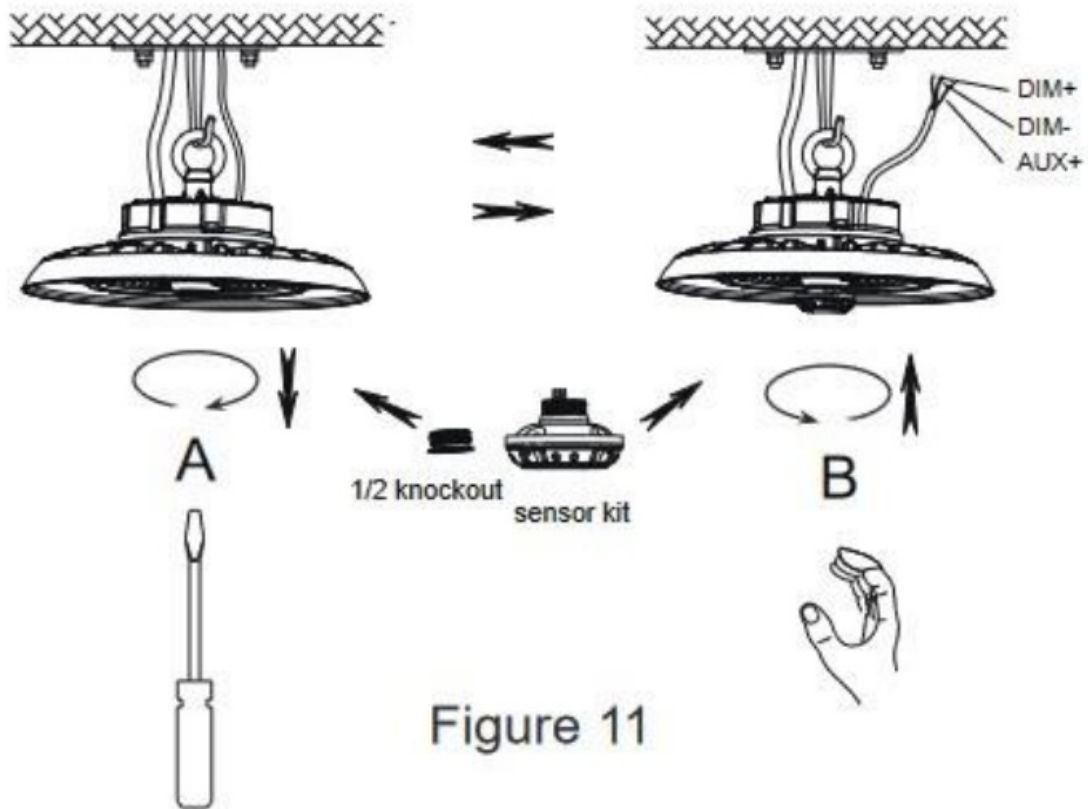

Figure 10
4. Connect the two ground wires together before connecting the two white neutral wires to each other and the two black wires to each other. By adjusting the bracket screws, the fixture can be vertically adjusted 50° to the left or right (Figure 10).